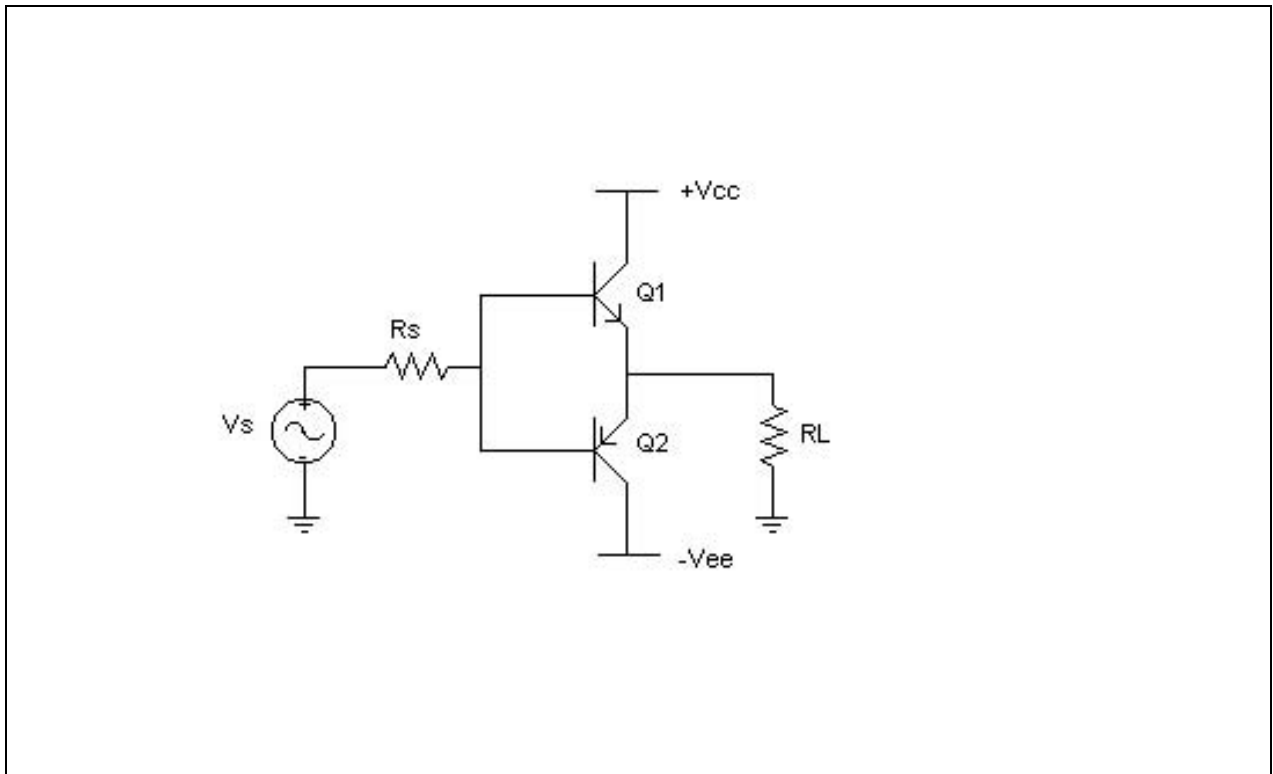

Figure 3.1: Basic Complementary Symmetry Power Amp
A basic complementary symmetry BJT power amplifier is shown in Fig. 3.1
1. Describe qualitatively the operation of the circuit in Fig. 3.1.
2. For the circuit in Fig. 3.1, take $R_S = 1K$, $R_L = 1K$, the supply voltages to be $\pm 15V$, and V_s to have an amplitude of 10V. Calculate g_m based on the average current. Calculate the voltage gain and output resistance of the circuit.